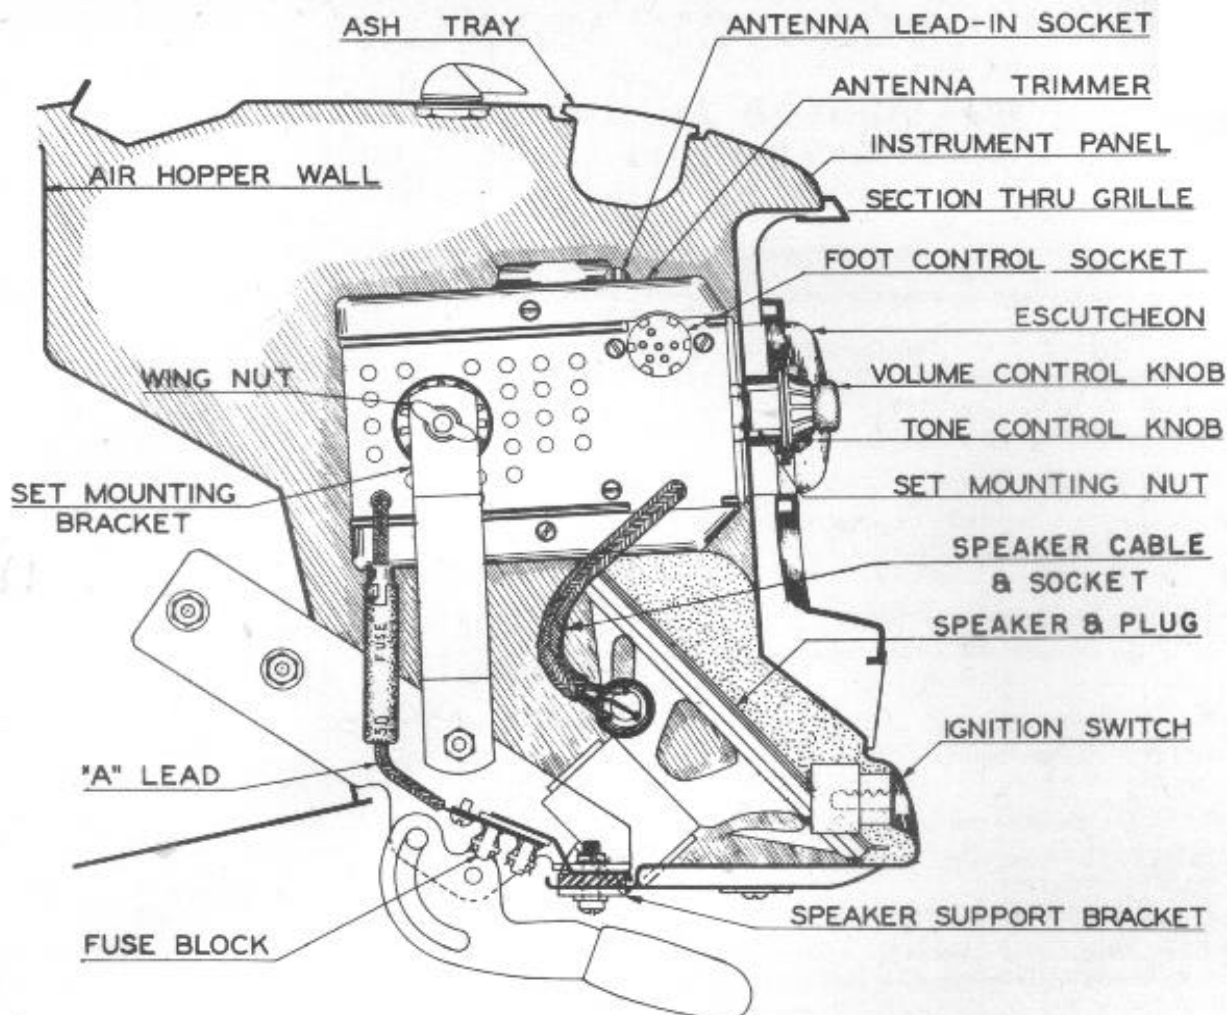

Fig. 2. Mounting Details and Connections
9. Attach set mounting bracket by fastening one end to the side of the receiver case with the wing nut. Fasten the other end of the radio mounting bracket to the cowl ventilator handle bracket with $\frac{1}{4}$ " x $\frac{3}{4}$ " M.S., flat washer, and nut. (Fig. 2.)
10. Remove cardboard protector from speaker unit and fasten speaker and bracket assembly in place with two $\frac{1}{4}$ " x $\frac{3}{4}$ " M.S. flat washers, two lock washers, and two nuts provided. (Fig. 2.) Plug the speaker cable into the socket provided on the speaker frame.
14. Fasten the "A" lead to the fuse block as indicated in figure 2.
15. Turn the receiver on and allow it to operate for approximately fifteen minutes in order for it to reach normal operating temperature. Tune in a weak station near 1200 Kc. Reach through the ash tray opening with a small screw driver and adjust the antenna trimmer, located on the top of the receiver, for maximum volume. (Fig. 2.) Replace ash tray.